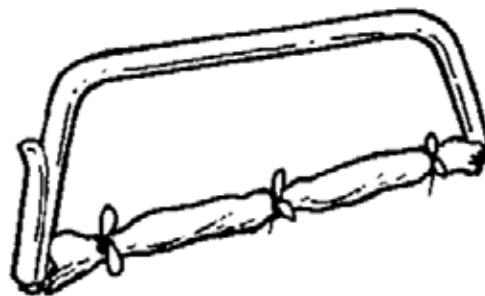

Figure 6 Storing a Bow Saw
- Mask or store axes and bow saws in a secure case when not in use (as illustrated in Figure 6)